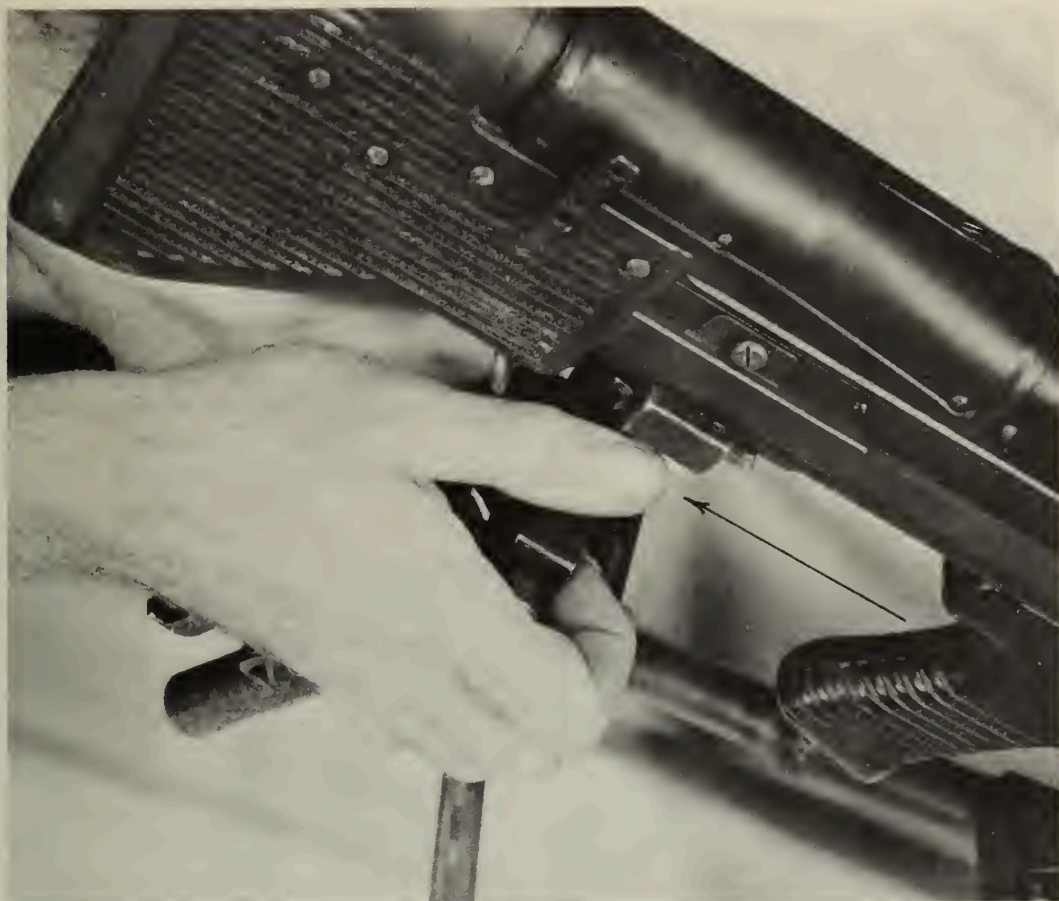

Figure 77. --Dismounting the Gun.
a. Release the traversing bar slide lock lever and raise the rear of the gun. Pull down on the release and pull the traversing and elevating mechanism straight off the gun to the rear. (See fig. 77.)